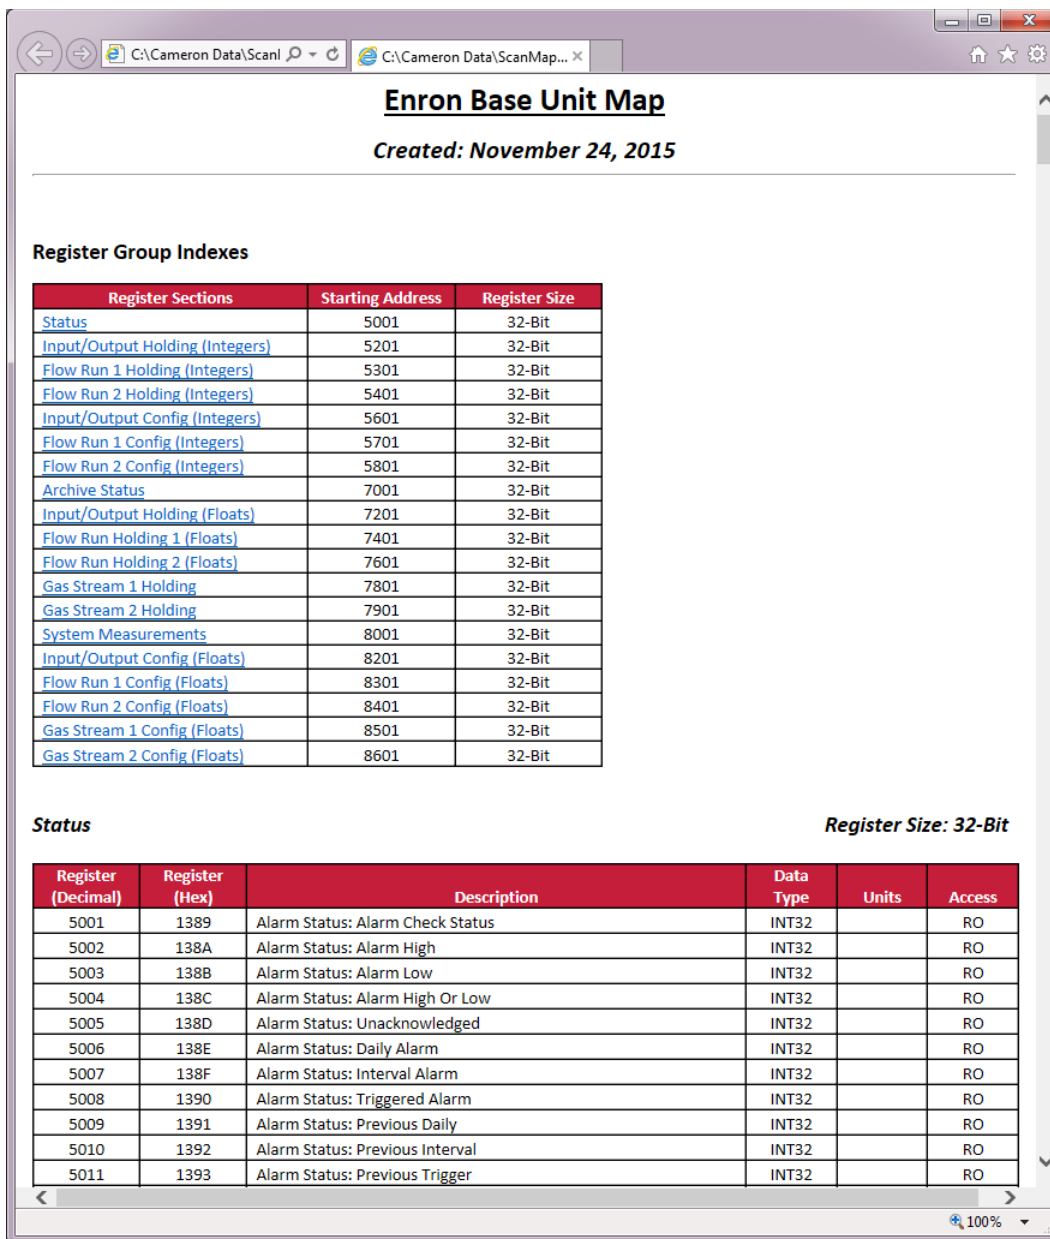

Figure 5.3—Sample Modbus manual
- Click **Save**. The manual will be instantaneously displayed in the computer’s web browser (Figure 5.3, page 25) and saved to the “C:\Cameron Data\ScanMap\Maps” folder by default, or in a user-specified directory.